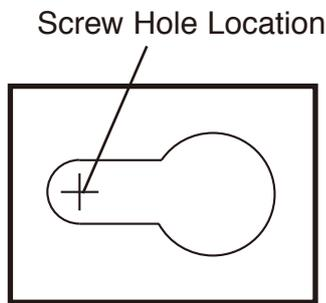

FIGURE 3
7. **Position the Fixture Housing (1) against** the mounting surface and with a pencil, mark the screw hole locations to be located at the narrow section of the keyholes. **See Fig. 3.**